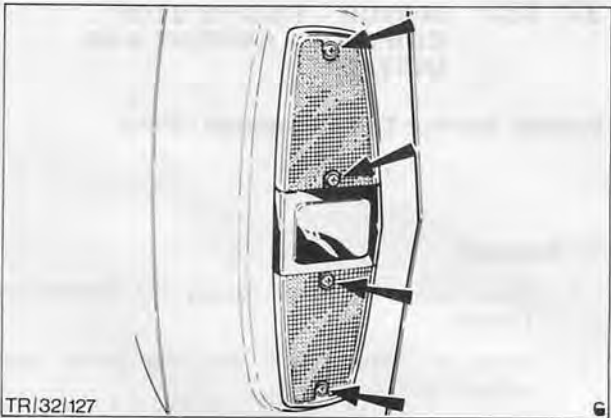

Fig. 27. Lamp lens securing screws
3. Remove four screws securing lens to lamp and remove lens from lamp. Remove lens gasket from lamp, Fig. 27.